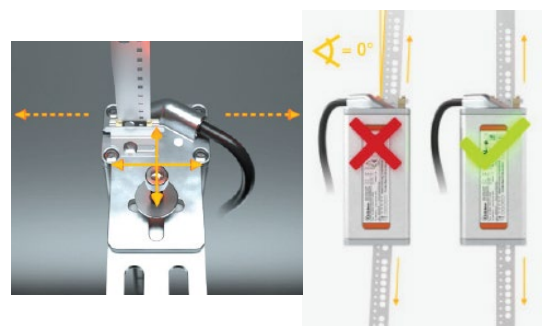

Figure 26: Sensor and Tape Alignment
19. Adjust the sensor's position using the T-hole so that the tape is straight and not tilted to the side. Once the tape is correctly positioned in the sensor, fully tighten the Sensor Fastening Screw. See Figure 26